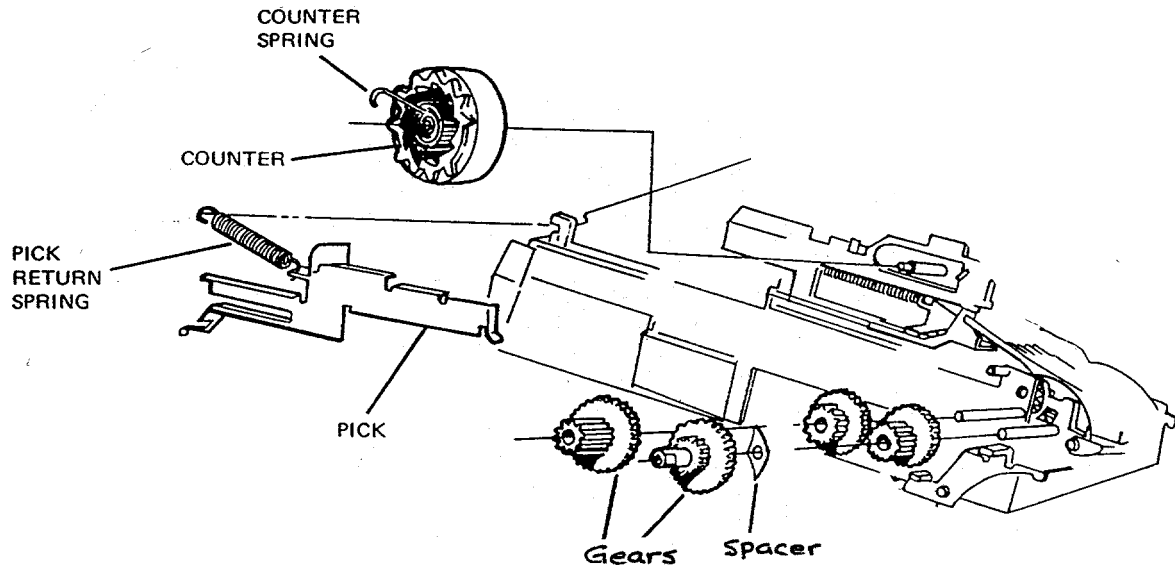

Fig. 43 Removing the Counter, Gears & Pick
52. Remove the Counter and Counter Spring by pulling the Counter off its shaft (Fig. 43).
Remove the four remaining Gears and the Spacer from their shafts (Fig. 43).
Release the back end of the Pick Return Spring and slide the Pick forward. Lift both parts free of the Cone Assembly (Fig. 43)